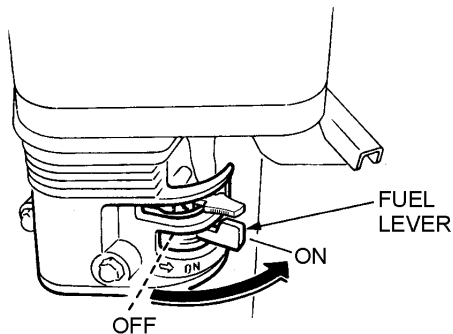

Figure 7. Engine Fuel Valve Lever (ON Position)
1. Place the engine fuel valve lever (Figure 7) to the "ON" position.